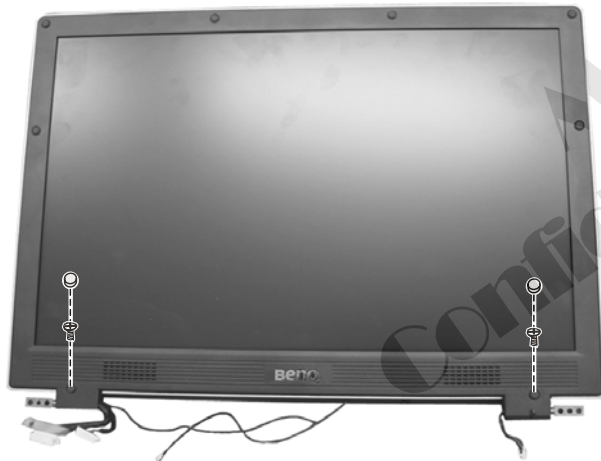

Figure 2-16 Remove LCD cover
2. Remove the two rubber pads and two screws on the corners of the panel. (Figure 2-16)